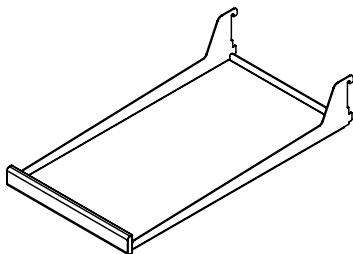

Figure 32
(1) half width flat glass cantilever shelf. (See Figure 32).